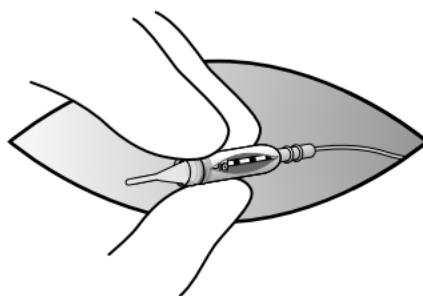

Figure 5. Hold setscrew connector block between thumb and two fingers.
5. Hold the setscrew connector block firmly between thumb and two fingers to prevent rotation (Figure 5).